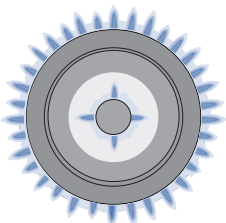

Fig. 4
3. Visually check that both the inner and outer rings have lit -Fig. 4.